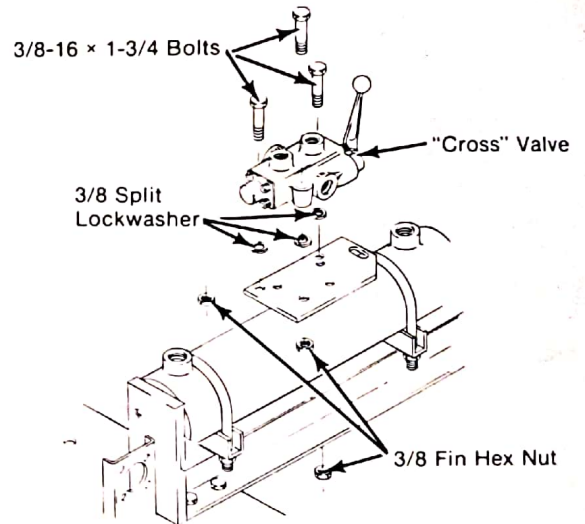

Figure 4A
**Step 4)** Position control valve on mounting plate. Install hardware as shown. Do not tighten. (Fig. 4A & 4B)